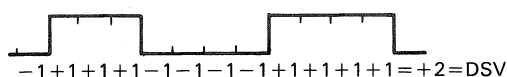

Fig. 19 Digital Sum Value
ing the level and making a flat (+1's) period. Refer to Fig. 19.
*Digital Sum Value (DSV): In regard to digital square waves, the sum value in a long period by assigning +1 and -1 to the high level and low level respectively. (Fig. 19)